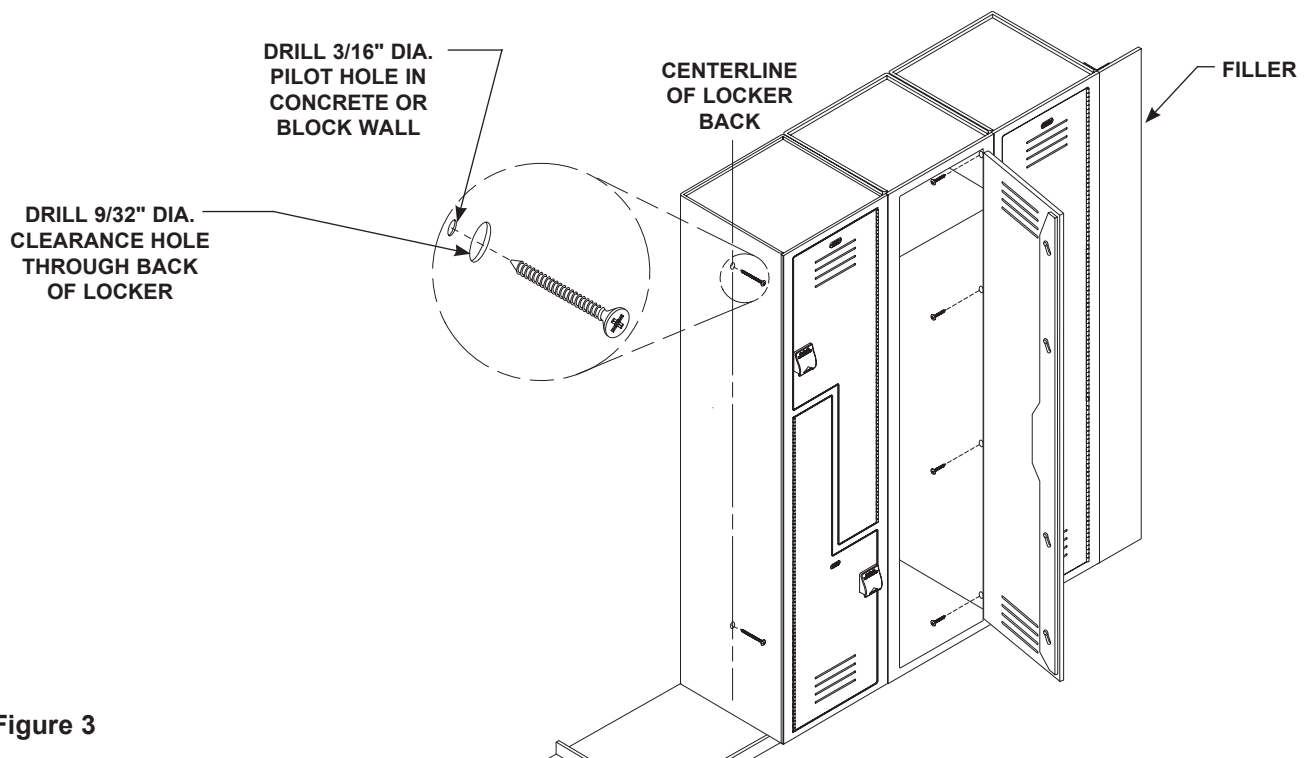

Figure 3
1. Position the first locker according to your submittal layouts. Square and plumb the locker using shims as required. Secure the locker to the wall in two places with the two 1/4" x 1-3/4" Lg. Tapcon screws. With the screws centered across the width of the locker, place one near the top and one near the bottom as shown in Figure 3.
3. Temporarily clamp the lockers together at the top and bottom. Drill four 9/32" clearance holes through locker as shown in Figure 3. The holes should be located 1-1/2" from the front of the locker and evenly spaced, top to bottom. Fasten lockers to each other using the #10-24 male and #10-24 x 3/4" female sex bolts provided.
5. Secure each locker to the wall in two places with the appropriate wall installation hardware provided. Use two 1/4" x 1-3/4" Lg. Tapcon screws, placing one near the top and one near the bottom of the locker as shown in Figure 3.
2. Secure each locker to the wall in two places with two 1/4" x 1-3/4" Lg. Tapcon screws, placing one near the top and one near the bottom of the locker (refer to Figure 3 on page 6).
4. Secure each locker to the wall in two places with two 1/4" x 1-3/4" Lg. Tapcon screws, placing one near the top and one near the bottom of the locker (see Figure 3 on page 6).